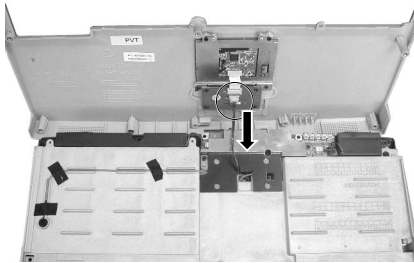

Figure 2-23 Remove the base unit cover
4. Lift up the base unit cover and disconnect the touch pad cord . (Figure 2-23)